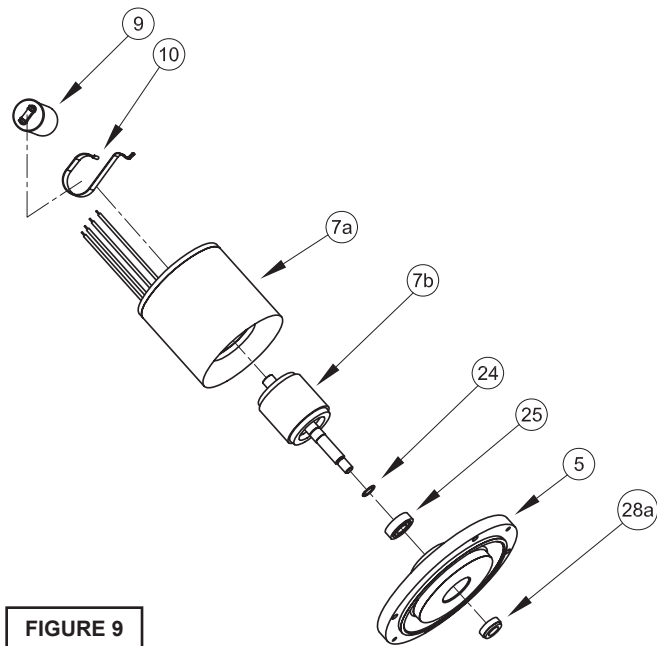

**FIGURE 8**
Pull the terminal block (21) out of the housing (6) using a T-bolt or a pair of pliers and a .25-20 screw in the threads of the terminal block (21). Be sure to leave slack on the motor leads connected underneath. Use needle nose pliers to pull each female connector off of the pins on the underside of the terminal block (21), see Figure 8. The unit voltage should be noted. Repeat cable and terminal block removal procedure for any control cables (56) if equipped. Remove socket head cap screws (47). Vertically lift the motor housing (6) from seal plate (5) by lifting handle (13). Inspect square ring (27) for damage or cuts.